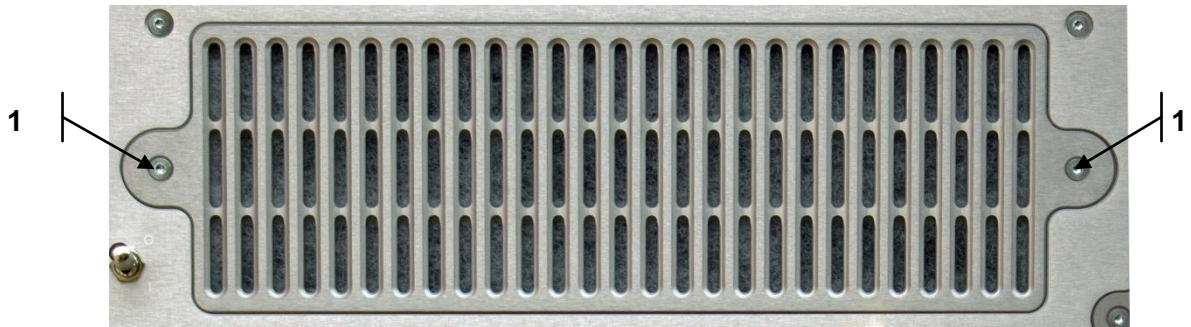

Fig. 7-5: Transceiver Ventilation Grid Fixing Screws
3. Remove the two fixing screws (see Fig. 7-5).
5. Clean the existing air filter or insert a new air filter. Mount the ventilation grid as shown in Fig. 7-5.
6. Tighten the two fixing screws (1, Fig. 7-5).